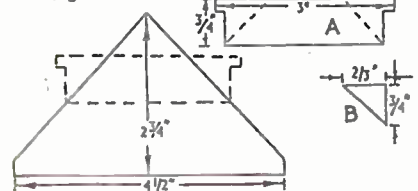

Fig. 2—The loose roof
As will be seen at Fig. 2, the loose roof piece is identical with the roof of the house itself. It fits in front of it, and is held in position with two struts glued on to the back of it. These strut pieces are marked (A). One of them is glued direct